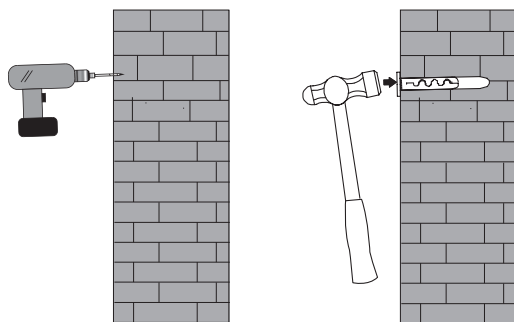

Fig.2
- Step2 Drill holes on the walls where there is pencil mark with an electric drill and get the plastic expansion inside the hole. (as Fig.2)